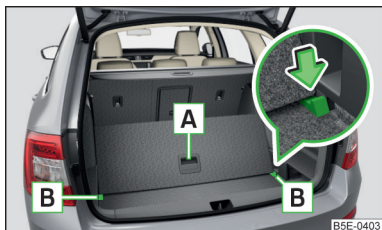

Fig. 116
- Raise the rear of the variable loading floor by the handle **A** » Fig. 116.